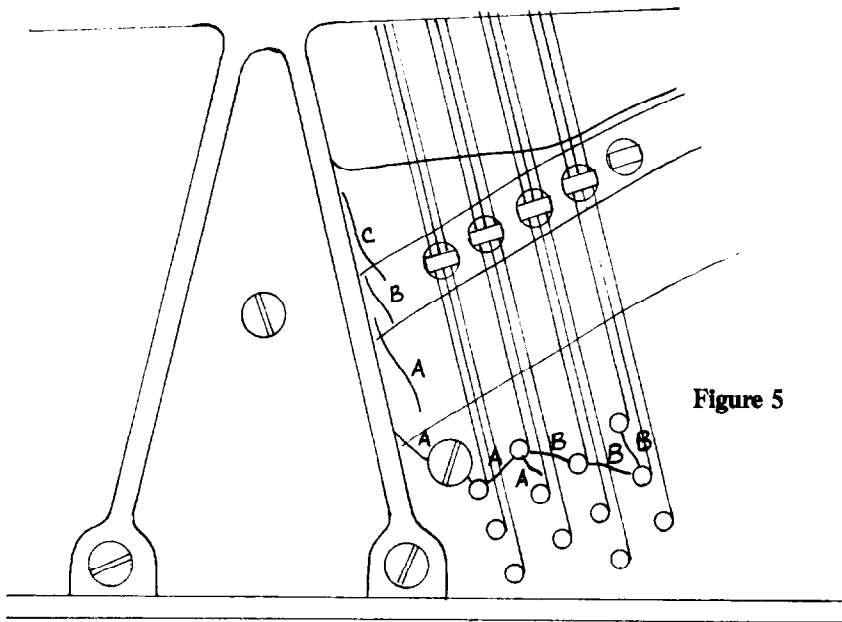

Figure 5
**Question:** "I service a seven foot grand built in 1960 that has some hairline cracks in the plate. I have seen the 'cooling cracks' in plates, particularly in the tuning pin area, in other pianos, and am aware that it is not at all a serious situation. However these cracks seem to be growing and spreading toward a more alarming area. I have drawn an illustration (see **fig. 5** — ed.). The letters by the crack are referred to as follows: cracks marked 'A' were present when I started servicing the piano 7 years ago. Cracks 'B' appeared 2½ years ago. Crack 'C' appeared 4 months ago. The piano undergoes the usual humidity variations found in school buildings. A few cracks have appeared in the soundboard and